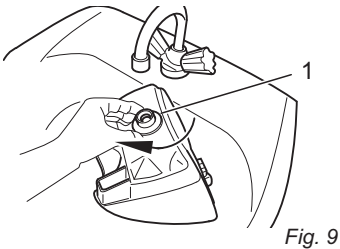

Fig. 9
3. Unscrew the cover (Fig. 9/1) on the lower part of the water tank.